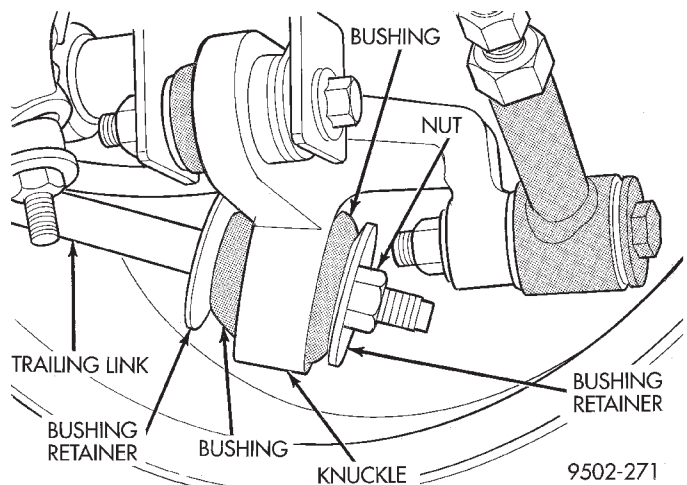

Fig. 47 Trailing Link To Knuckle Attachment
(1) Raise vehicle on jackstands or centered on a frame contact type hoist. See Hoisting in the Lubrication and Maintenance section of this manual, for the required lifting procedure to be used for this vehicle.
(2) Remove rear wheel and tire assembly from the vehicle.
(3) At the knuckle, remove the nut, bushing retainer and outer trailing link bushing (Fig. 47) from the trailing link.
CAUTION: When installing trailing link bushing retainers, retainers must be installed with cupped side of retainer facing away from bushing and knuckle (Fig. 47).
(4) At the knuckle, install the outer trailing link bushing, outer bushing retainer and retaining nut on trailing link (Fig. 47). Using a large adjustable wrench on flat of trailing link to keep it from rotat-
ing tighten the trailing link retaining nut (Fig. 47) to a torque of 99 N·m (73 ft. lbs.).